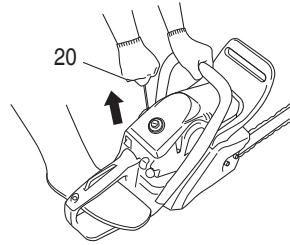

Fig. 15
5. Pull recoil starter (20) briskly, taking care to keep the handle in your grasp and not allowing it to snap back. (Fig. 15)
7. Pull recoil starter (20) briskly again in the aforementioned manner. (Fig. 15)